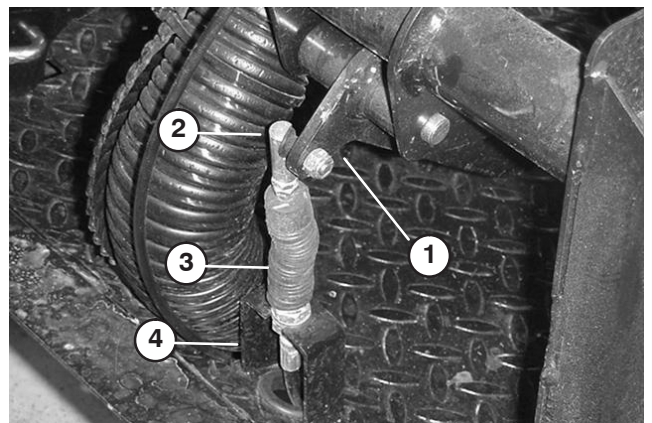

Figure 64
1. Remove nut securing clutch cable ball joint end to clutch pedal pivot (Fig. 64).